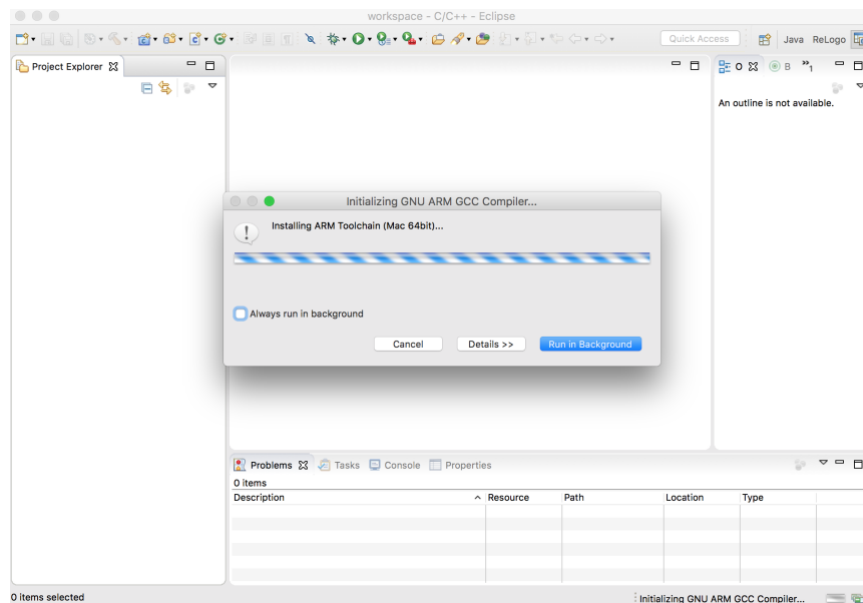

Figure 10: Last step of System Workbench (IDE) installation
15. Make sure your computer is connected to internet and double-click *SystemWorkbench.app*. Use the default workspace directory and wait for the final step of installation as Figure 10.